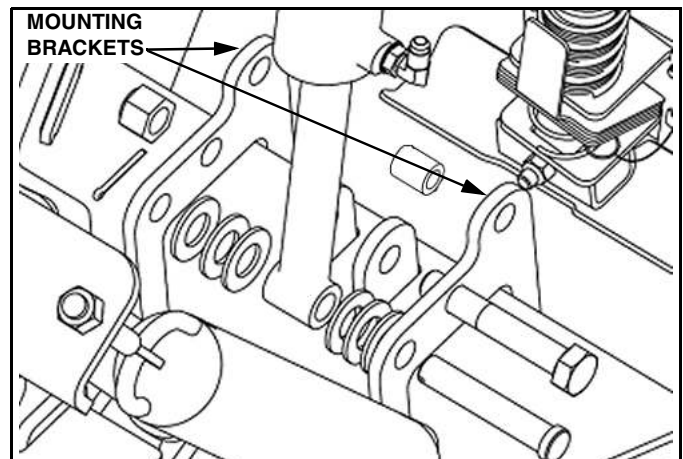

Figure 1-15
a. Position the mounting brackets on the A-frame crossmember with the raised tabs positioned toward the rear of the A-frame. (See Figure 1-15).